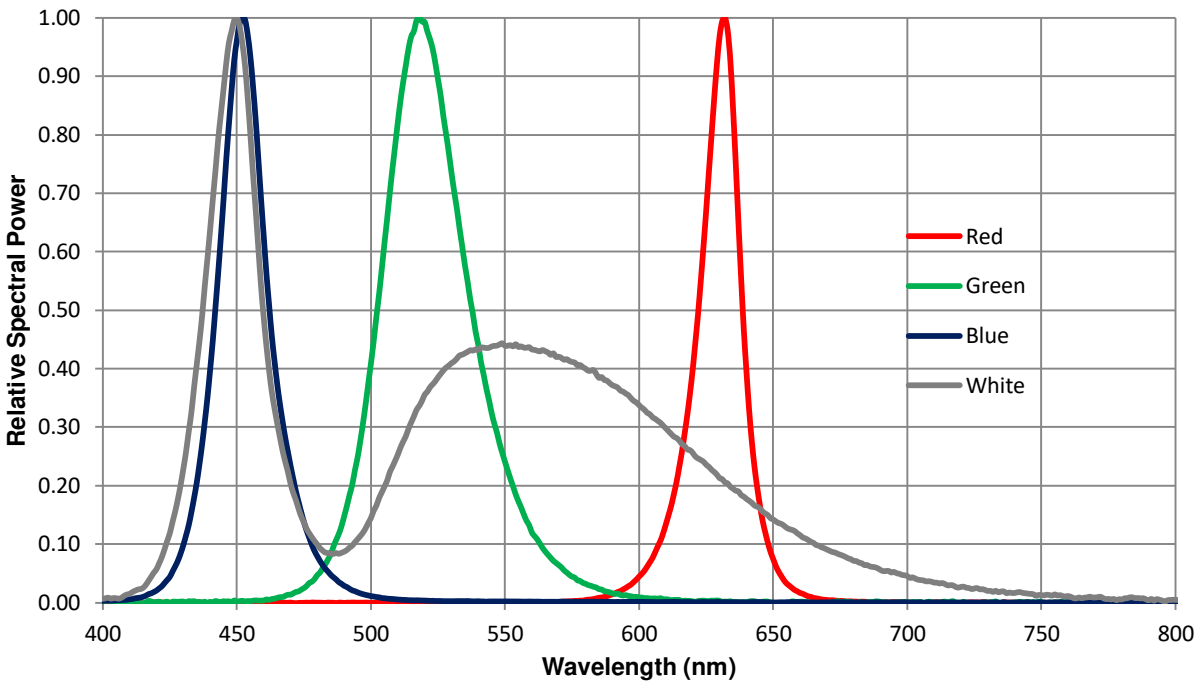

Figure 5: Typical relative spectral power vs. wavelength @ T_C = 25°C
4. Solder conditions per JEDEC 020D. See Reflow Soldering Profile Figure 5.